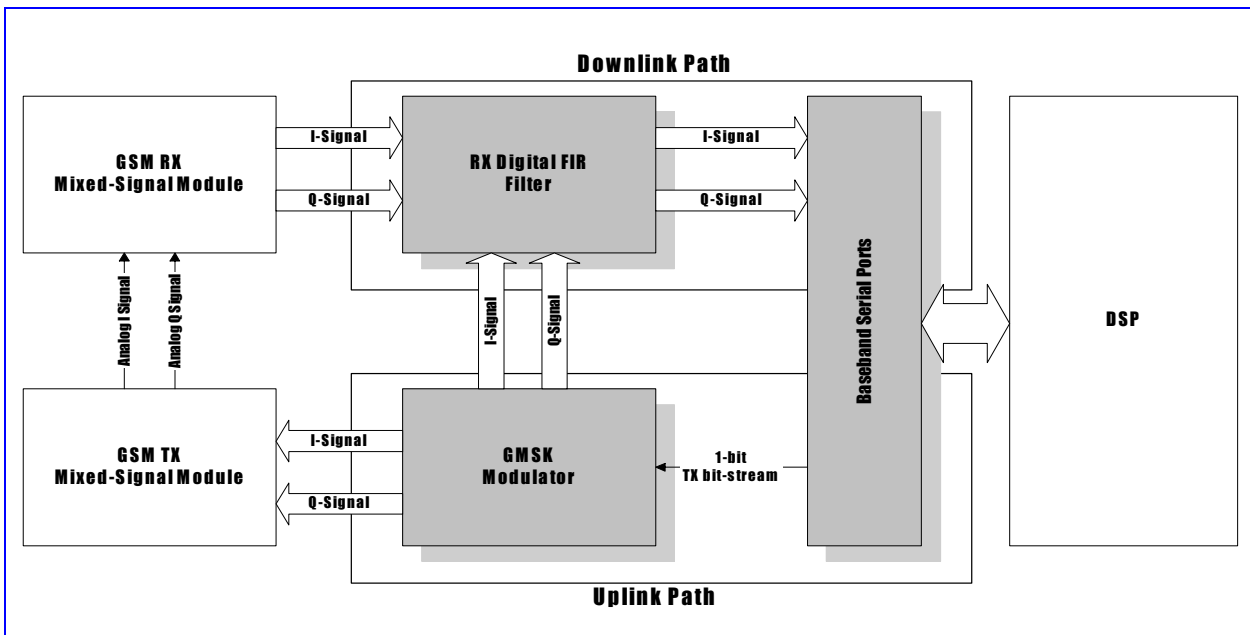

Figure 155 Block Diagram Of Baseband Front End
Baseband Front End is a modem interface between TX/RX mixed-signal modules and digital signal processor (DSP). We can divide this block into two parts (see **Figure 155**). The first is the uplink (transmitting) path, which converts bit-stream from DSP into digital in-phase (I) and quadrature (Q) signals for TX mixed-signal module. The second part is the downlink (receiving) path, which receives digital in-phase (I) and quadrature (Q) signals from RX mixed-signal module, performs FIR filtering and then sends results to DSP. **Figure 155** illustrates interconnection around Baseband Front End. In the figure the shadowed blocks compose Baseband Front End. The uplink path is mainly composed of GMSK Modulator and uplink parts of Baseband Serial Ports, and the downlink path is mainly composed of RX digital FIR filter and downlink parts of Baseband Serial Ports. Baseband Serial Ports is a serial interface used to communicate with DSP. In addition, there is a set of control registers in Baseband Front End that is intended for control of TX/RX mixed-signal modules, inclusive of calibration of DC offset and gain mismatch of downlink analog-to-digital (A/D) converters as well as uplink digital-to-analog (D/A) converters in TX/RX mixed-signal modules. The timing of bit streaming through Baseband Front End is completely under control of TDMA timer. Usually only either of uplink and downlink paths is active at one moment. However, both of the uplink and downlink paths will be active simultaneously when Baseband Front End is in loopback mode.